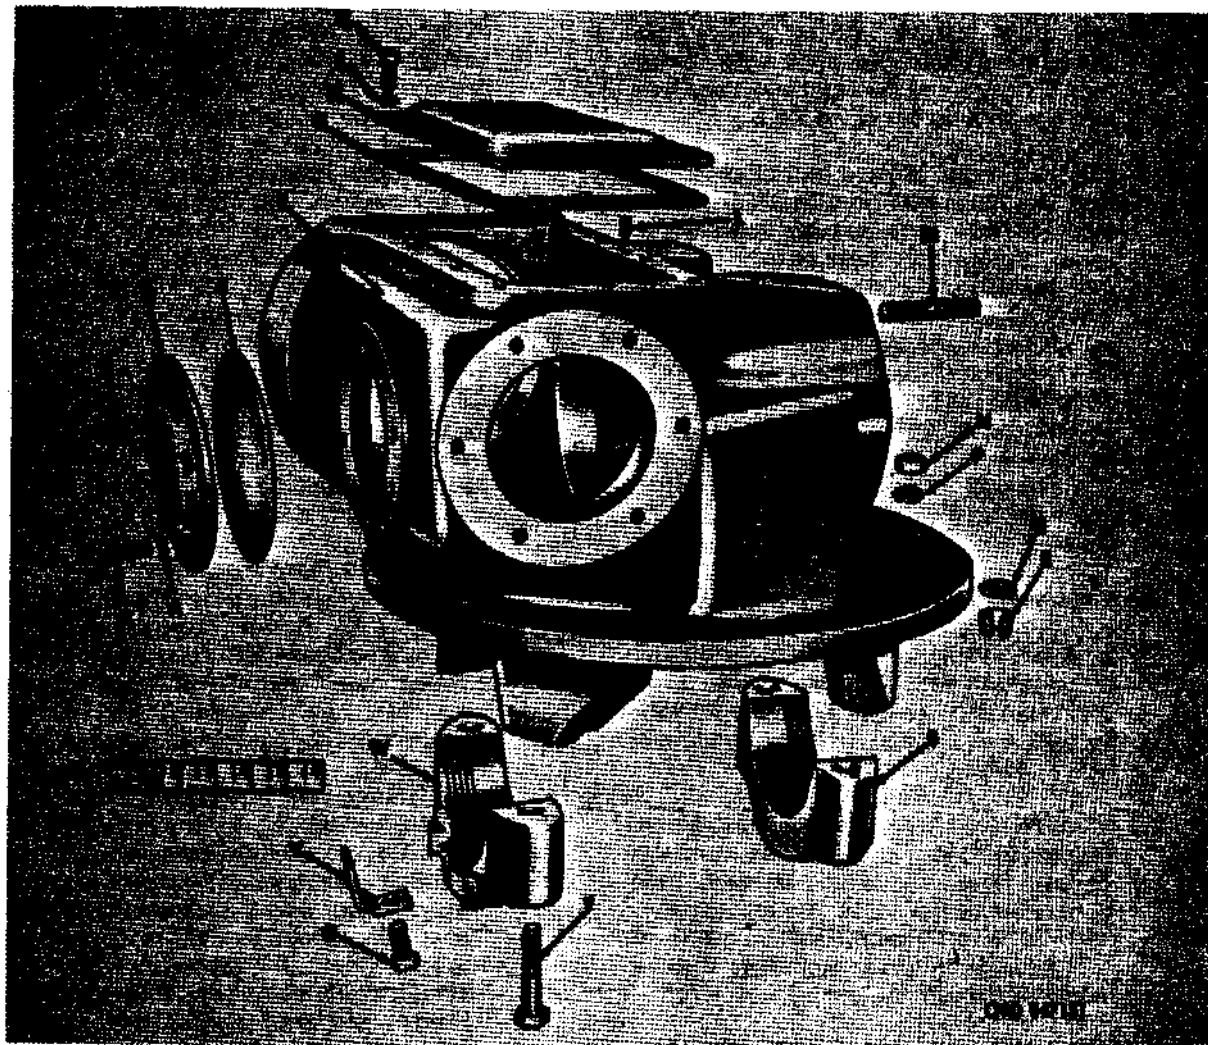

Figure 361. Differential carrier - exploded view
- (1) Remove differential carrier assembly (fig. 361). Punch an index mark on